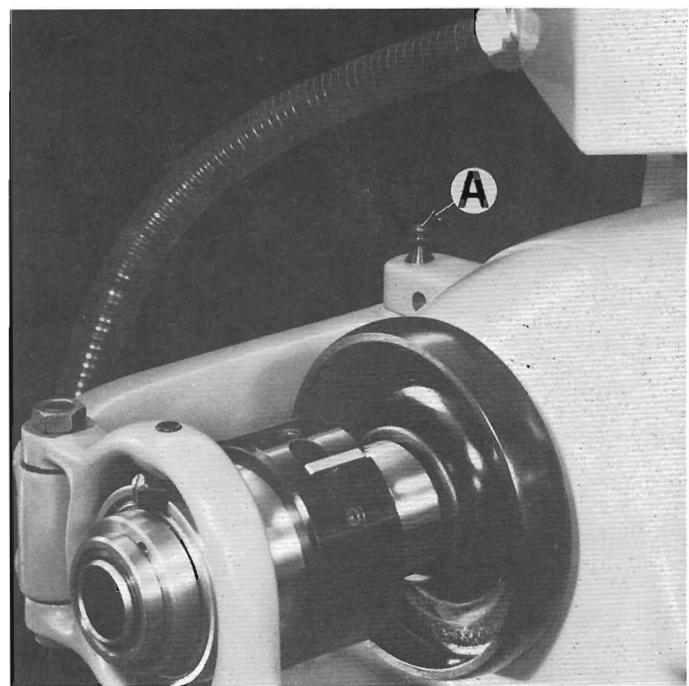

Figure 6 — Collet Closer Link Pin
1. Remove link pin "A", Figure 6, only. This pin is easily removed by pulling up and out with fingers.
2. Apply a film of light oil on rear of headstock spindle and replace adjusting nut "B", Figure 7. **DO NOT FORCE ADJUSTING NUT ON SPINDLE.** If adjusting nut goes on tight, remove and examine for burrs or scratches. Apply a film of light oil on bearing section "C" of collet closer tube, replace closer and insert link pin "A", Figure 6.